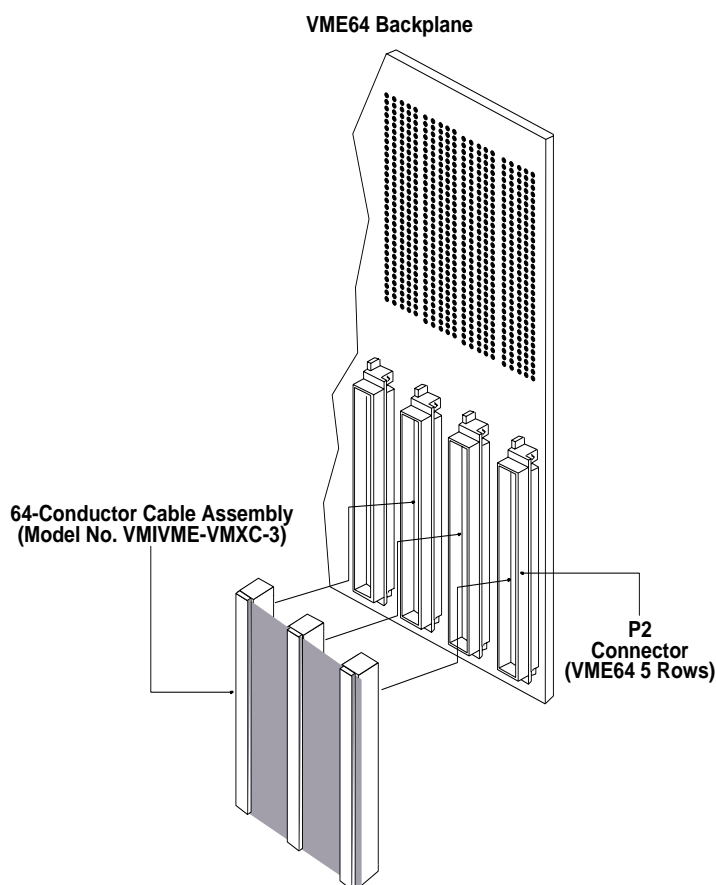

Figure 7 VME64 Backplane with 64-Conductor Cable Assembly
4. Install the 64-conductor cable assembly onto the rear of the backplane. The cable must be connected to the rear I/O shrouded P2 connectors of both slots, one occupied by the SBC and the other connected to the VMIVME-7459 P2 connector. See Figure 7 on page 13.
The installation of the VMIVME-7459 with VME64-compatible backplanes is similar to the installation on the previous pages. It is recommended that the VMIVME-7459 and the VME64-compatible SBC be used in a standard VMEbus chassis. However, if it is a requirement to use a VME64 chassis, the VME64 backplane uses 160-pin 5 row connectors, of which only the center three rows of the backplane pins are utilized for signals, power and ground. Therefore, when installing the VMIVME-7459 in a VME64 chassis, care must be taken to ensure the correct pin alignment. Use the 64-conductor cable assembly identified in Figure 7 below to connect the SBC to the VMIVME-7459 through the backplane. The same 64-conductor cable assembly should be used for both the VMEbus and VME64 backplanes. The interface cable part number is **VMIC Model Number VMIVME-VMXC-2, VMXC-3 or VMXC-7**.